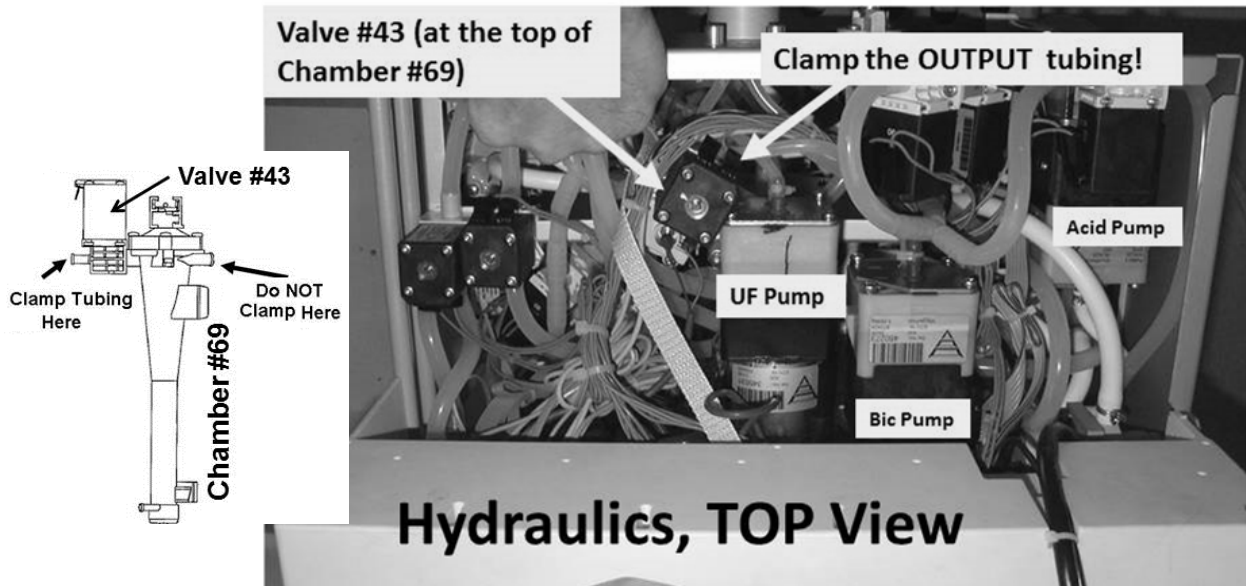

Figure 22 - Isolate Valve #43
- a) Still in RINSE, per **Figure 22 (below)**, DOUBLE CLAMP Valve #43's OUTPUT tubing! **NOTE:** Valve #43's output tubing extends towards the front of the machine!